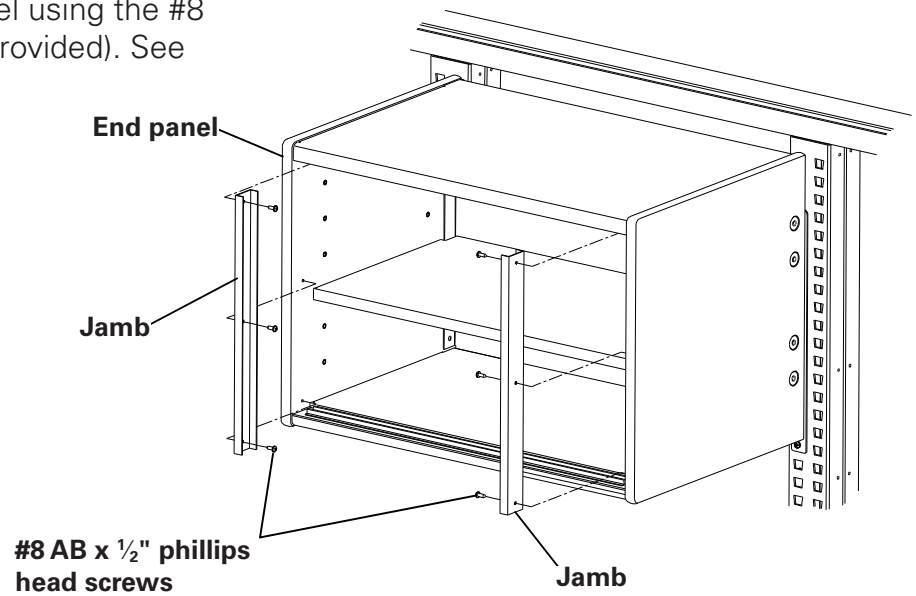

Figure 10
1. Install a Jamb to each Side Panel using the #8 AB x 1/2" Phillips head screws (provided). See figure 10.